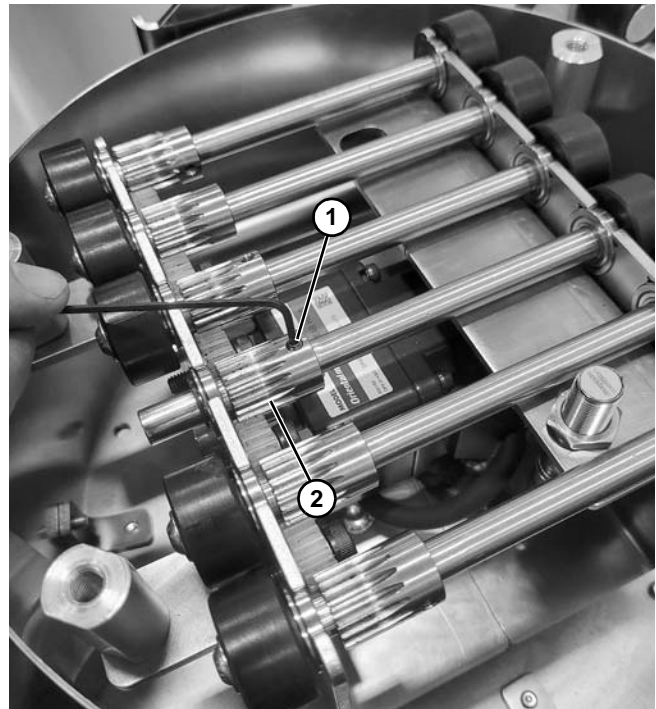

Figure 137
5. Loosen set screw (Figure 137, item 1) on gear to slide gear (Figure 137, item 2).